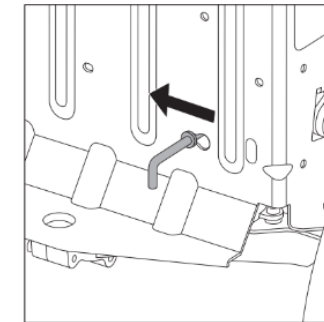

Fig. 1B
6. Re-engage the transmission by pulling the rod out and moving it back to the left. (Fig. 1B)